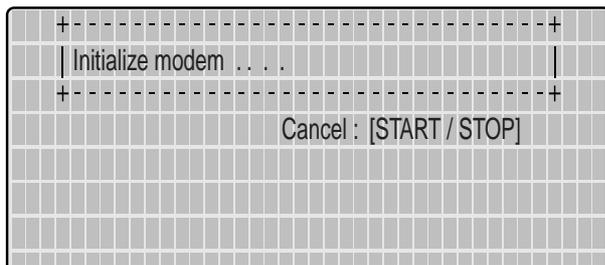

Figure 5-14. Screen display after activation of  and .
- Use the key combination  and  to display the screen for receiving ECGs (Figure 5-14). The connected modem is automatically initialized. The procedure can be aborted with  .